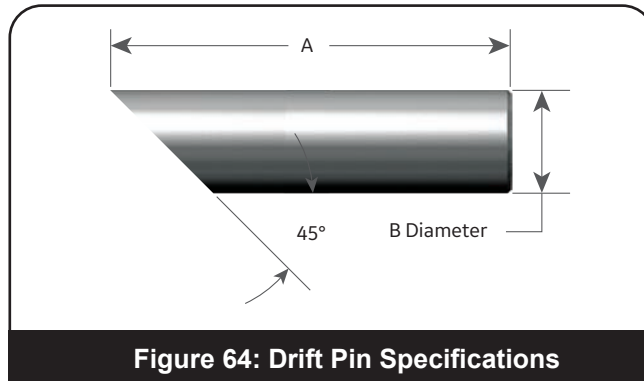

Figure 64: Drift Pin Specifications
4. Drift Pins: Two drift pins are required for the removal of the disc from the disc holder. Refer Figure 64 and Table 17 for Drift Pin specifications.